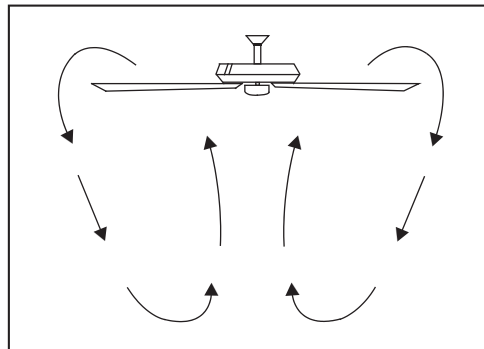

Figure 25
**Cool weather** - (Clockwise direction) An upward air flow moves warm air off the ceiling as shown in Figure 25. This allows you to set your heating unit on a lower setting without affecting your comfort.